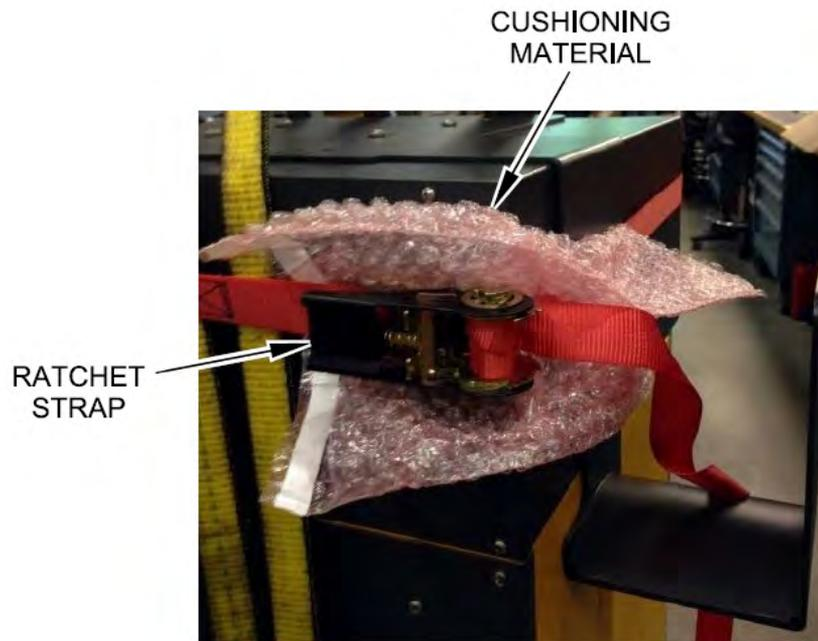

Figure 2-5 **Cushioning Material**
8. The ratchet strap can cause damage to the surface of the VGSC. Put applicable material in all areas to prevent damage to the surface of the VGSC. Refer to Figure 2-5.